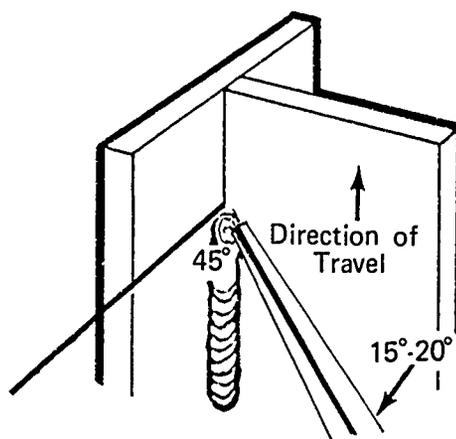

FIGURE 3
- G. Position gun nozzle at a 45° degree angle from sides of joint (centered) and 15° - 20° degrees up from horizontal (Figure 3)